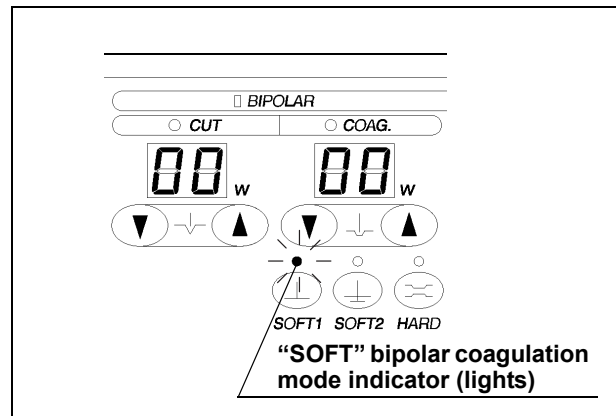

Figure 4.3
2. Confirm that the “SOFT 1” bipolar coagulation mode indicator is lit (see Figure 4.3).